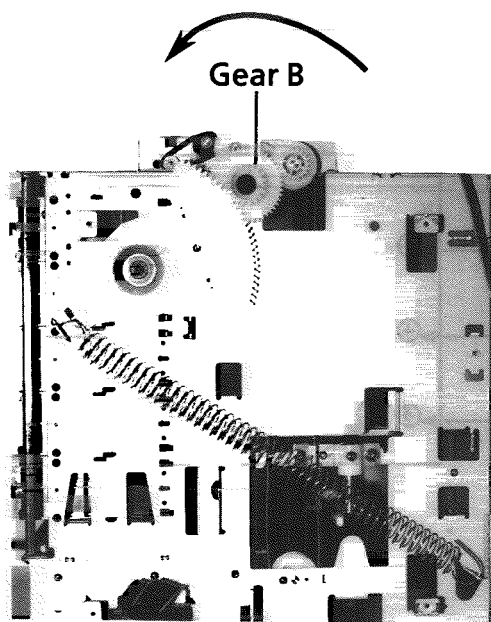

Fig 8 Elevator mechanism ass'y view
1. Do the (1) (2) (5).
2. Rotate the B gear shown in Fig.8, and move the loding mecha ass'y to the top.
1. Rotate the gear B shown in Fig 8 and move the lodingmecha to the bottom side